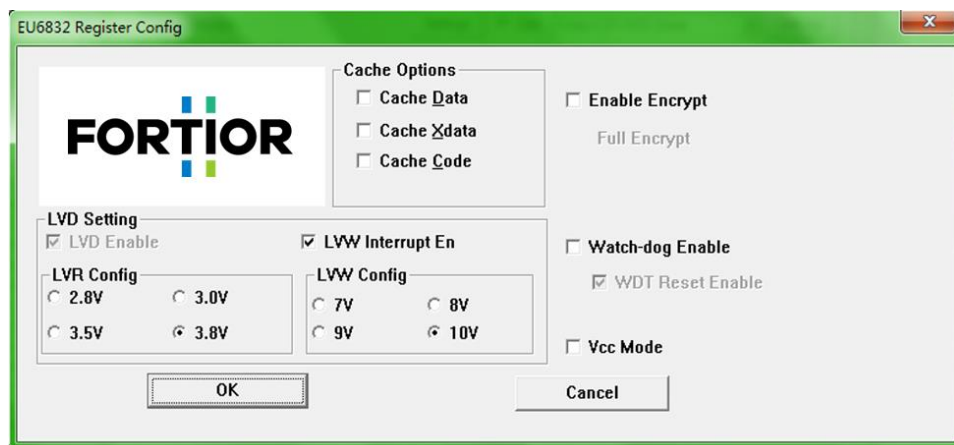

Figure 32-2 Full Code Protection Mode
2. Select the options as shown in Figure 32-2, and click OK. Then compile the project and download it. Get the BIN file and program it to Flash.